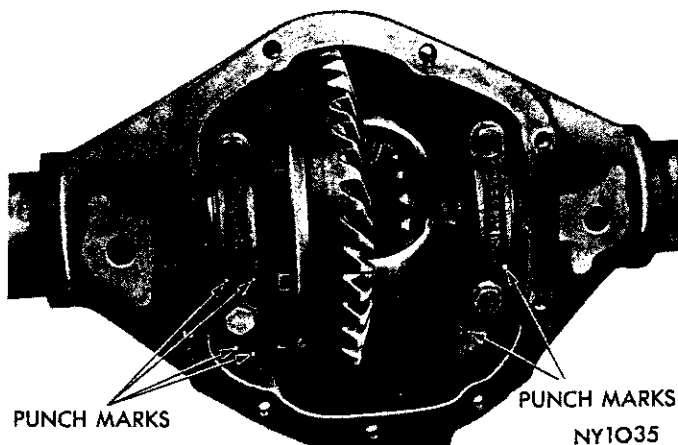
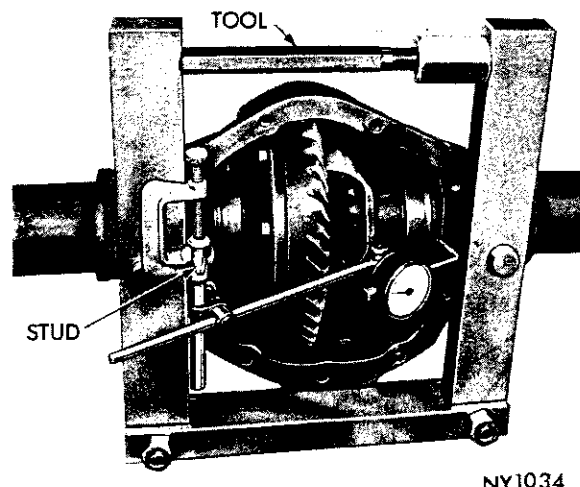
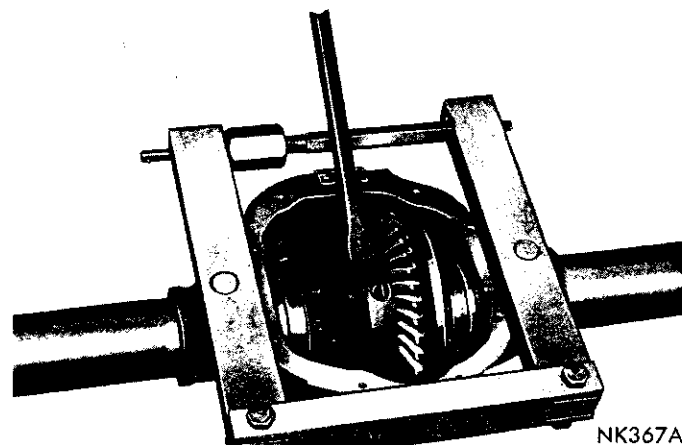

Fig. 11—Bearing Cap Identification
Fig. 12—Spreading Rear Axle Housing
Fig. 13—Loosening Differential Assembly
(8) Mark axle housing and differential bearing caps for location in reassembly (Fig. 11).
(9) Remove differential bearing caps and locate spreader Tool C-3721 with tool dowel pins seated in locating holes of axle housing. Turn tool screw finger tight at this time.
(10) Install pilot stud, Tool C-3288, on left side of axle housing. Attach dial indicator and load indicator stem slightly against opposite side of axle housing (Fig. 12).
(11) Tighten spreader tool nut sufficiently to obtain .012 to .015 inch movement of dial indicator to permit removal of differential case assembly. (Do not spread over .020 inch.)
(12) Remove dial indicator and remove differential and ring gear assembly from axle housing. A light prying action must be used to unseat the differential assembly from the housing (Fig. 13). Differential bearing cups and preload adjusting spacers must be kept with respective bearing cones. Do not remove spreader tool.
(13) Remove drive pinion and rear bearing assembly from axle housing.